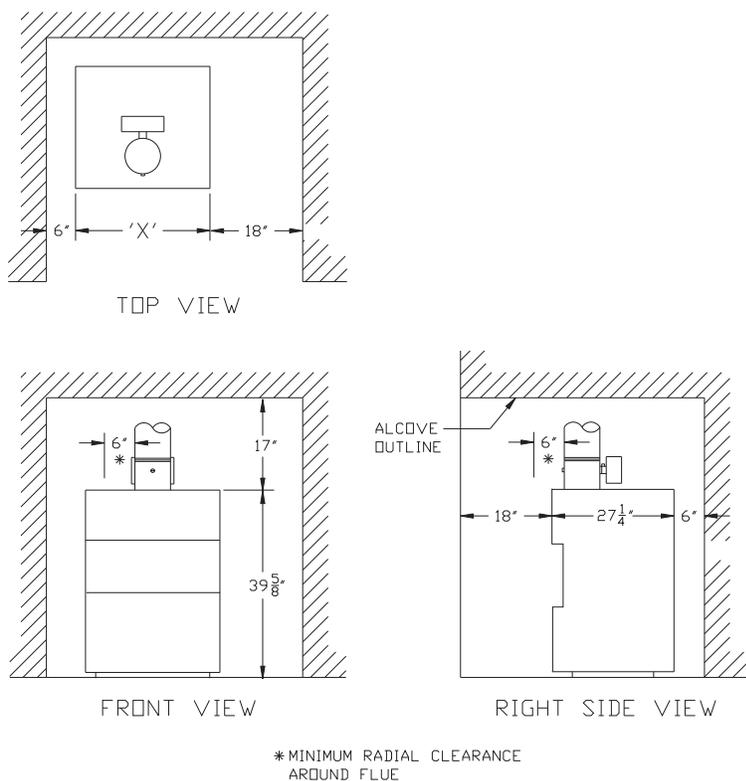

Figure 5-1: Clearances to Combustible Construction and Noncombustible Ceilings, Walls, and Doors
- A. Observe minimum clearances shown below to avoid potential fire hazard. Except as noted, these clearances apply to all combustible construction as well as noncombustible walls, ceilings and doors. Also see Figure 5-1.
- B. A 24 in. service clearance from the jacket is recommended on the left, right, and front of the boiler. These clearances may be Reduced to those shown in Figure 5-1, however servicing the boiler will become increasingly difficult as these service clearances are reduced.